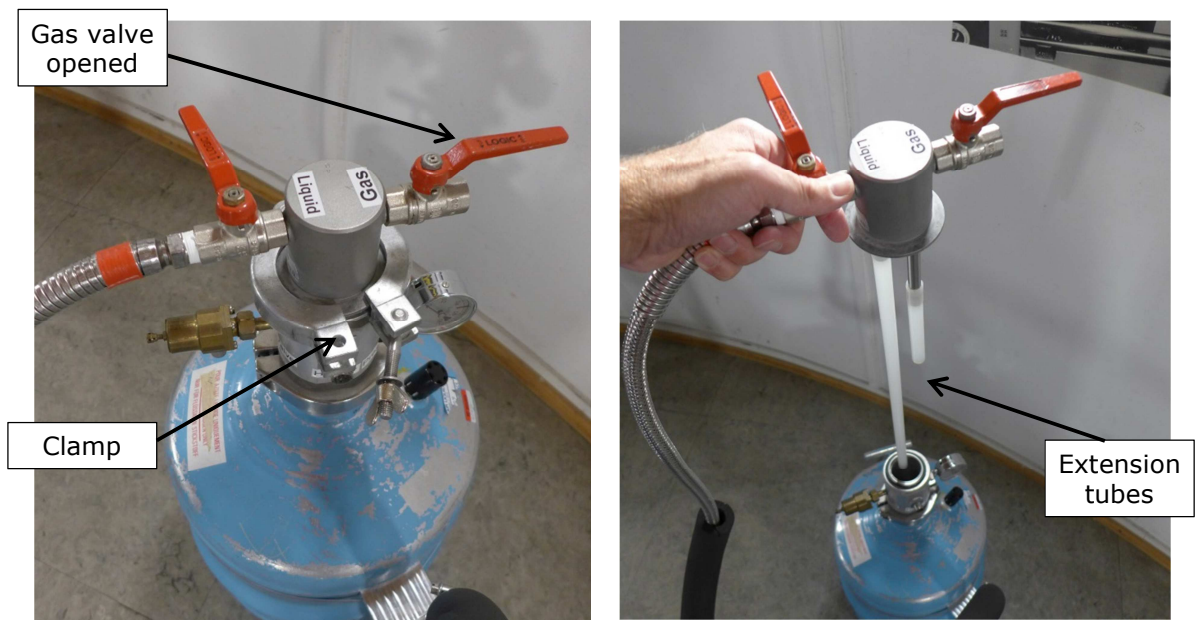

Figure 4-1: Left: gas valve open and clamp open. Right: cap with extension tube pulled out.
- 3) Vessel opening: (Figure 4-1)